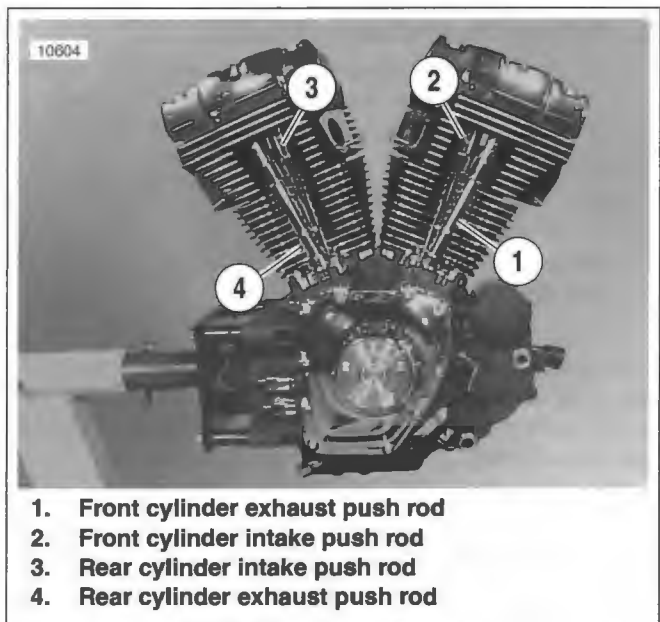

Figure 3-44. Lifter Bore Covers
- a. See Figure 3-44. For example, if reassembling the rear cylinder, slide the intake push rod (silver) through the front hole in the rocker housing engaging the lifter socket in the inside hole of the lifter cover.